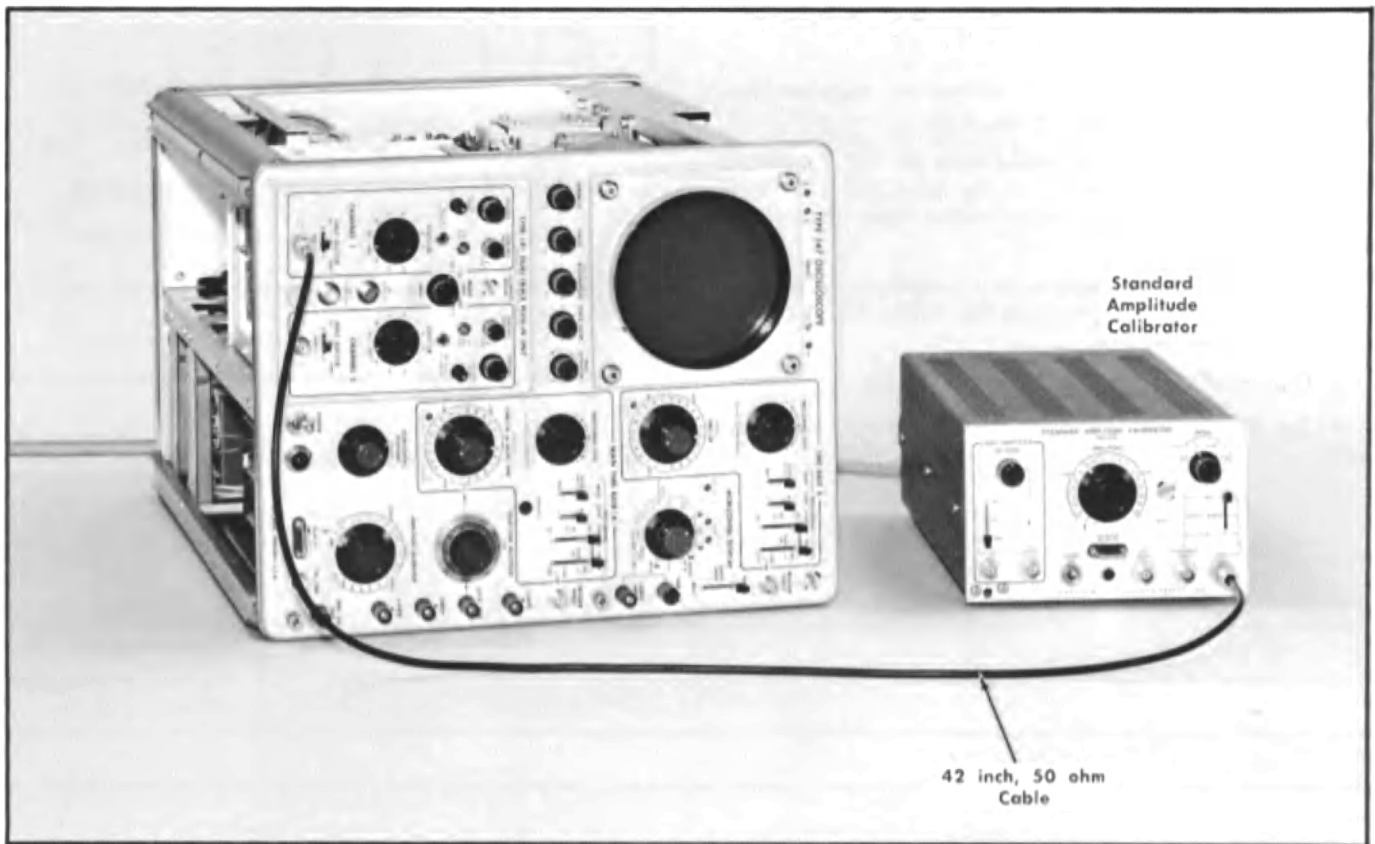

Fig. 7-23. Test equipment setup for step 20.
- Test equipment setup, with connections made at completion of step 20b, is shown in Fig. 7-23.